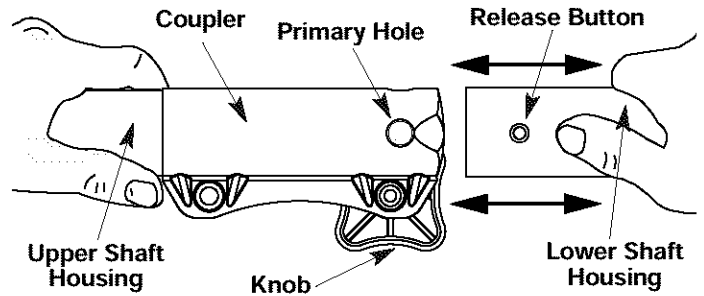

Fig. 2
3. While firmly holding the upper shaft housing, pull the hedge trimmer add-on out of the coupler (Fig. 2).
3. While firmly holding the add-on, push it straight into the coupler (Fig. 2).
**CAUTION:** Lock the release button in the primary hole (Fig. 2) and securely tighten the knob before operating this unit.